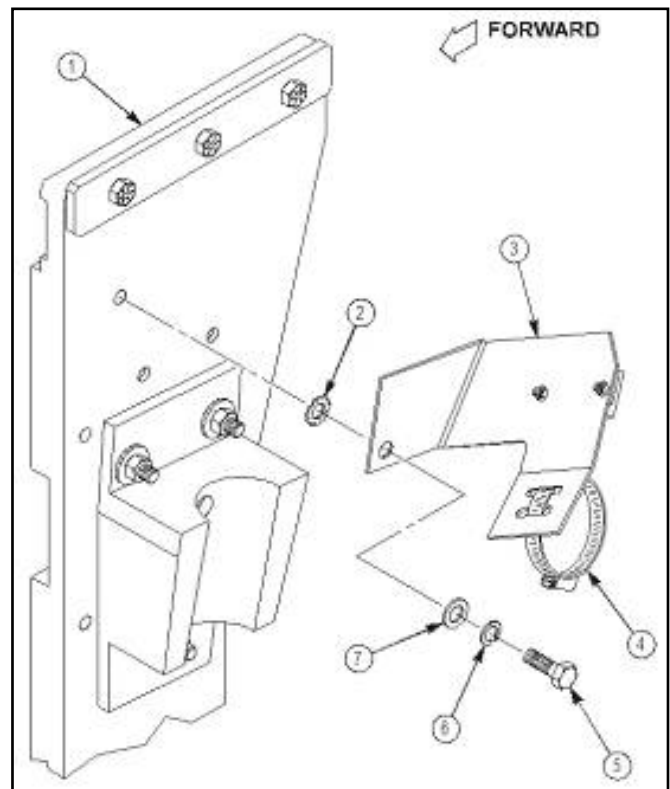

Figure 22.
33. Secure right fire sensor bracket (3) to right B-pillar plate (1) with 6430528-05M1 serrated lockwasher (2), 4397005-013 washer (7), 4397004-007 lockwasher (6), and 4397000-034 capscrew (5) as shown in figure 22. Tighten capscrew (5) to 21 lb-ft (28.5 N·m), and secure clamp (4).